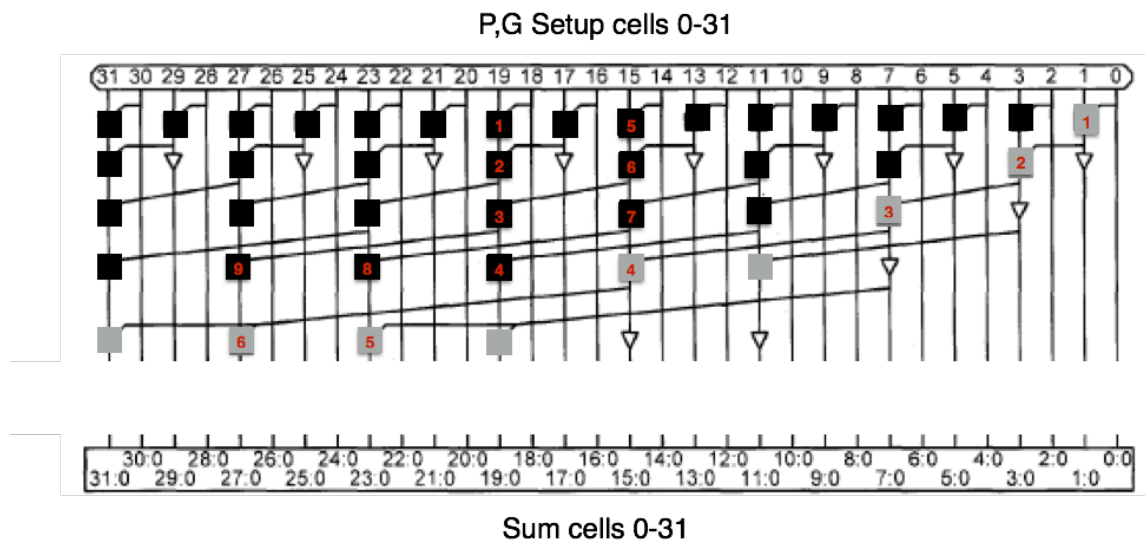

Figure 3. The PG-tree part of an unknown prefix adder. Part of the tree is missing.
The fundamental insight behind the prefix adders is that the logical functions for block generate and block propagate can be performed for smaller blocks and then combined to form all the necessary block generate and propagate signals. In this task you are to investigate this feature further. See Figure 3 of a prefix adder, which is not one of the usual ones.
- a) Write down the spans for the nine black and six grey PG cells that are numbered in Figure 3. As an example for the black cell, which is above grey cell number 2, the span is 3:2. See also Figure 11.29 in Weste & Harris.
- d) If we assume just straight lines in the white space at the bottom of the tree in Figure 3, which of the 32 sums cannot be formed from the tree as shown in Figure 3?
- f) If we (incorrectly) assume that all black and grey PG cell have the same propagation delay, which sum(s) will be done last in your solution from task e)? List ALL sums that have this propagation delay. How many PG cells do these longest (critical) paths contain? Ignore the buffers (triangles) shown Figure 3 when you find these paths. It may be helpful to draw the paths in attached schematic and submit it with your solution.